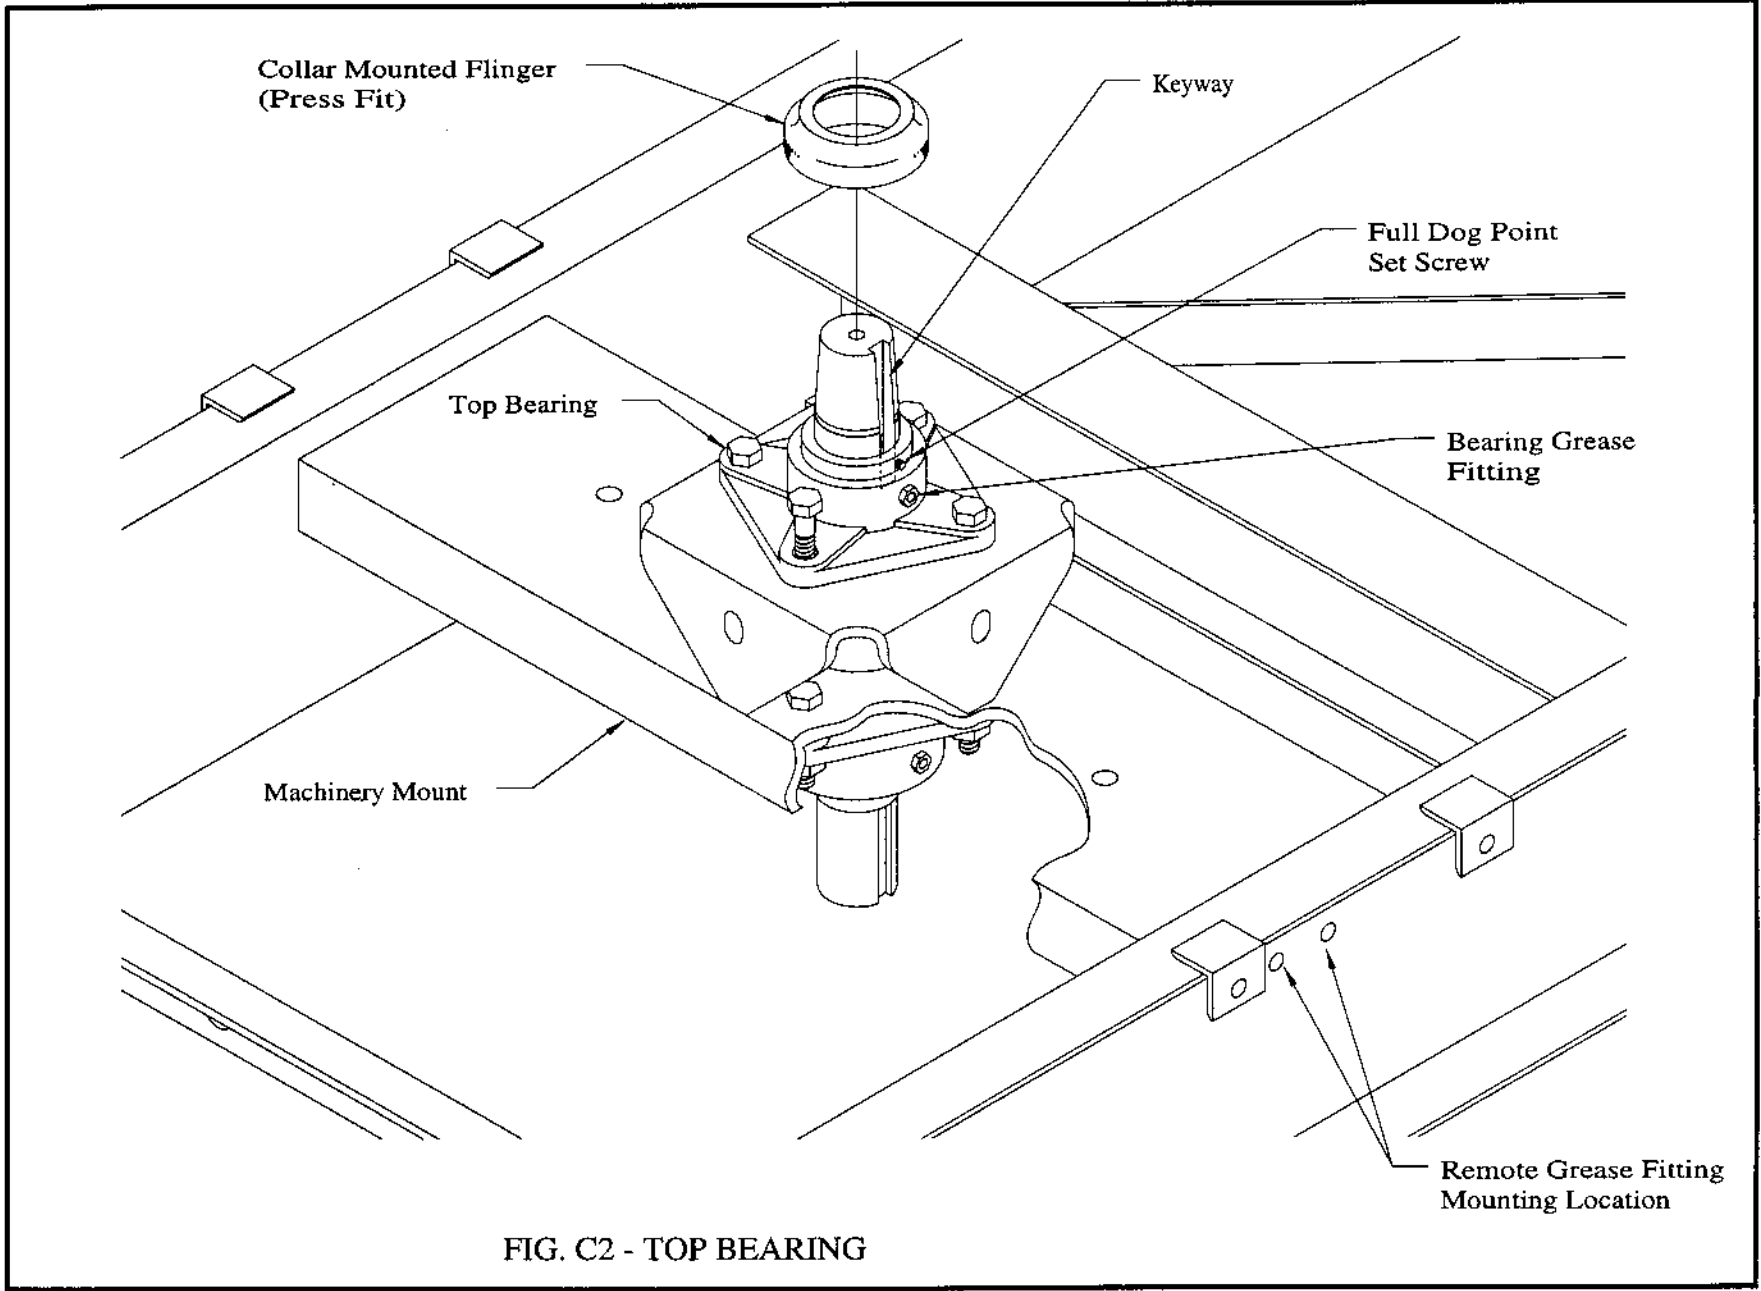

FIG. C2 - TOP BEARING
2. Attach top bearing, with grease connection facing the machinery mount side channel to which remote grease fittings will be installed. Use full dog point set screw in keyway. Make sure set screw does not contact bottom of keyway by backing screw off one full turn after screw touches bottom of keyway. Install flinger by tapping with wood to prevent damage to flinger. See Fig. C2.